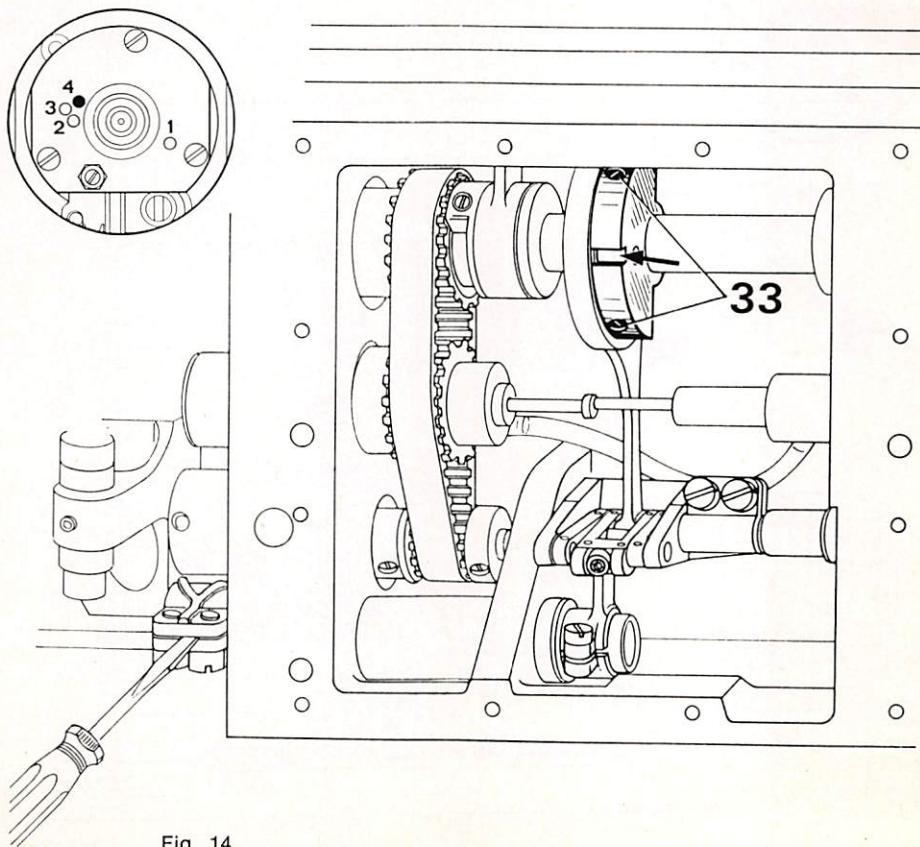

Fig. 14
11. **Adjusting the Feed Driving Motion (Fig. 14)**